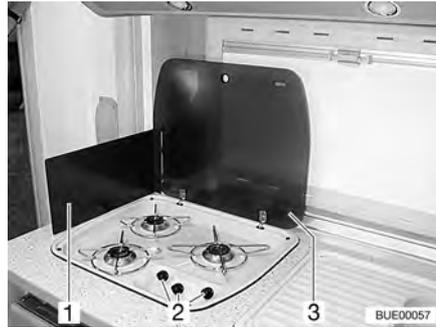

Fig. 180 Gas cooker
- Open the gas cooker lid (Fig. 180,3).
- Fold out or set up the flame protection (Fig. 180,1), depending on the model.
- Turn the control knob (Fig. 180,2) on the burner you wish to use to the ignition position (large flame).